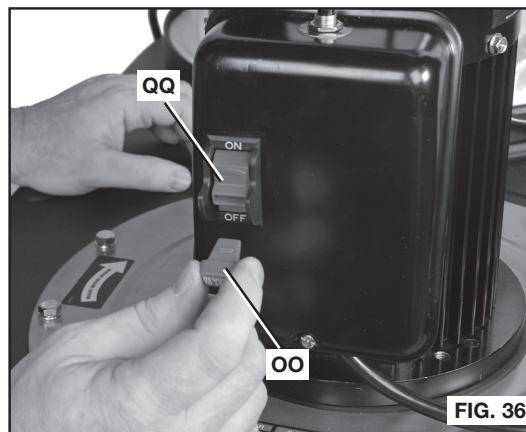

FIG. 36
IMPORTANT: When the machine is not in use, the switch should be locked in the "OFF" position to prevent unauthorized use. To lock the machine, move the switch toggle (OO) to the "OFF" position and pull it out of the switch (QQ) as shown in Figure 36. With the switch toggle (OO) removed, the switch will not operate. However, should the switch toggle be removed while the motor is running, the machine can be turned "OFF," but cannot be restarted without re-inserting the switch toggle (OO).